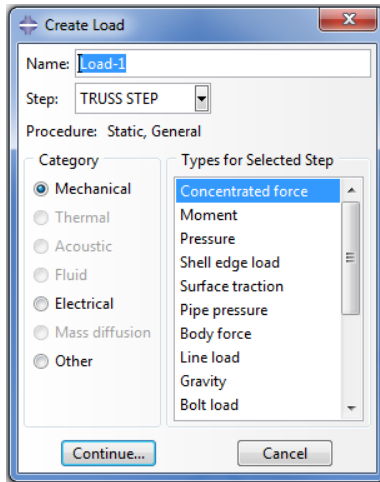

Figure 22a. Create Load Dialog Box
- A force of $F_x=1000$ lbs will be applied to the top node. Double click the **Loads** icon  **Loads** in the model tree. The **Create Load** dialog box will appear (Figure 22a).